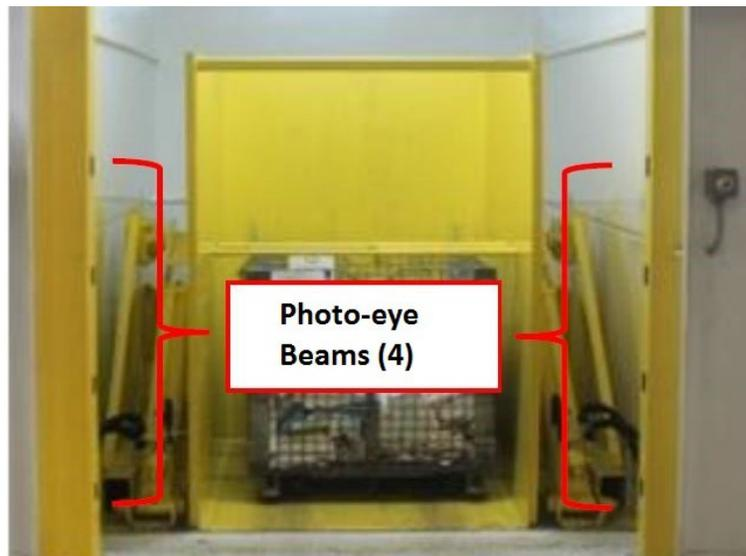

Figure 3. Photocell Guards
2. **CHECK PHOTOEYE ARRAY** – Check operation of the four (4) photoeye beams at dumper entrance. Breaking photoeye array must illuminate the Safety Tripped light on the operator control panel and the unit must not operate. Check each one of the four beam arrays separately. (Figure 3)